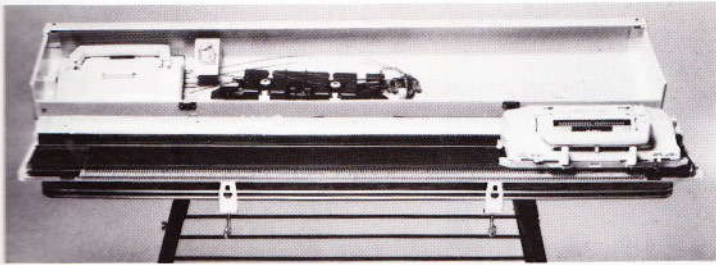

Fig. 5
- Place the cover upside down on the table (fig. 5).